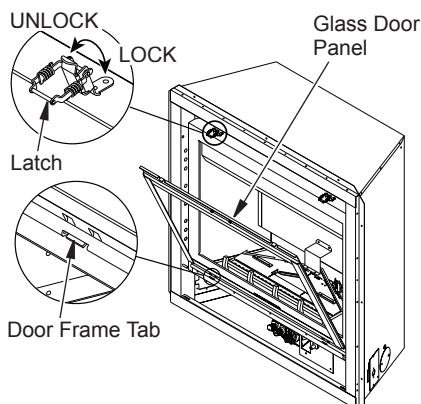

Figure 45 - Removing/Replacing Glass Door
3. Hold glass frame with one hand and with other hand unlock two door latches found on top of firebox to release tension on door frame (see Figure 45, page 27).
5. Lift lower frame tabs out from positioning slots found on lower frame retaining bracket (see Figure 45, page 27).
5. Wait five (5) minutes to clear out any gas. Then smell for gas, including near the floor. If you smell gas, STOP! Follow "B" in the safety information above. If you don't smell gas, go to the next step.
7. Turn gas control knob counterclockwise ↻ to PILOT (see Figure 45).
8. Push in gas control knob all the way and hold. Immediately light pilot by repeatedly pressing piezo spark ignitor until a flame appears. Continue to hold for about one (1) minute after pilot is lit. Release gas control knob and it will pop back. Pilot should remain lit. If it goes out, repeat steps 5 through 8.